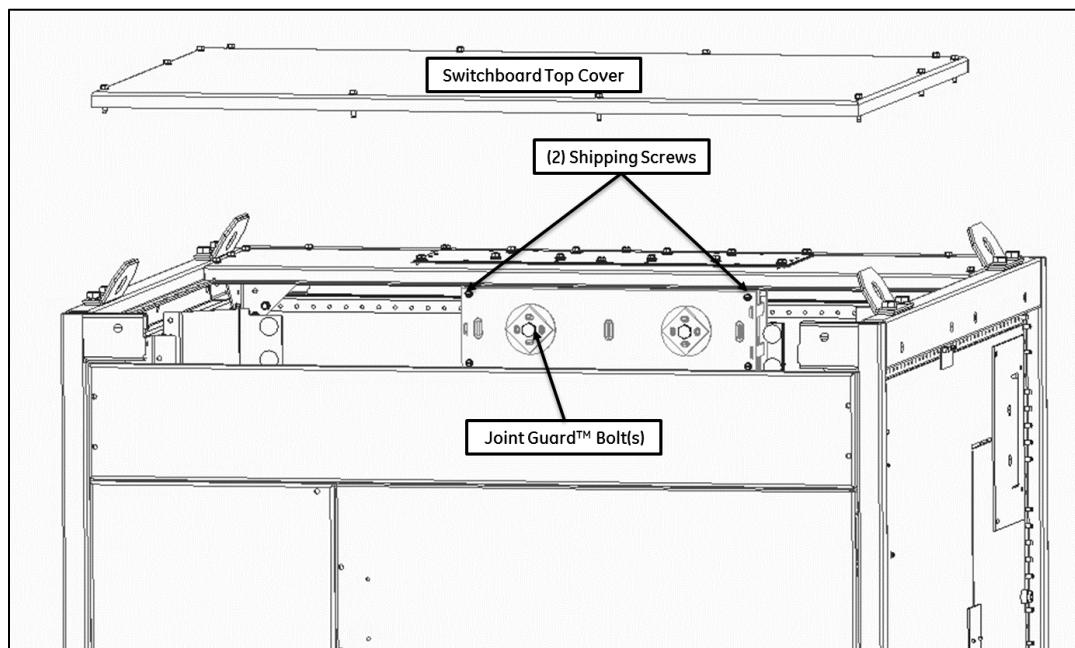

Figure 1. Location of removable shipping screws (front top width post removed for clarity)
- Remove the top cover of the switchboard as shown in Fig. 1.
- Remove the (2) 10-32 shipping screws on the integrated **Spectra™ Busway Joint** as shown in Fig. 1 and dispose of screws accordingly.
- Slightly loosen the ½" **Joint Guard™** bolt on the integrated busway joint inside the switchboard (Fig. 1)
- a. Remove the top cover of the switchboard as shown in Fig. 1.
- b. Remove the (2) 10-32 shipping screws on the integrated **Spectra™ Busway Joint** as shown in Fig. 1 and dispose of screws accordingly.